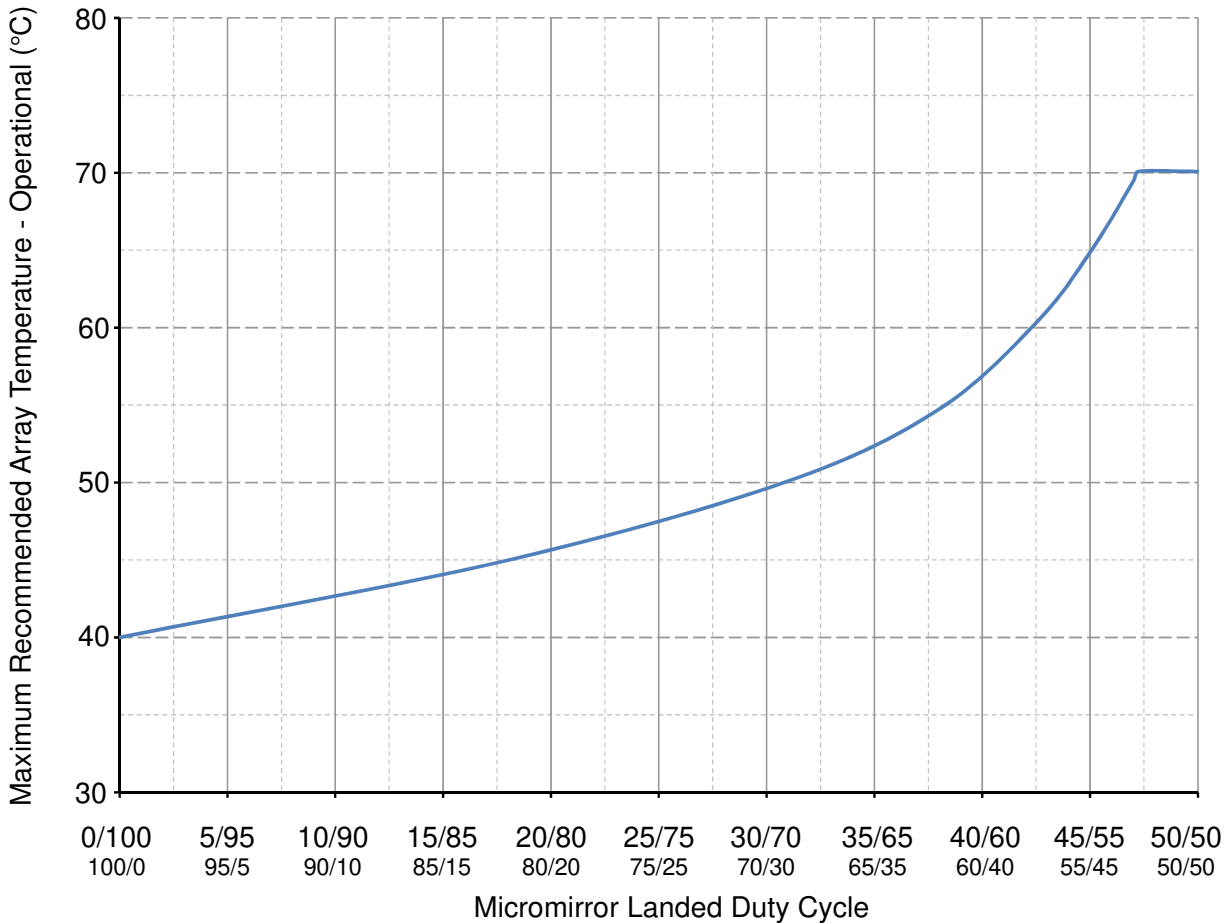

Figure 6-1. Max Recommended Array Temperature—Derating Curve
- (14) Per Figure 6-1, the maximum operational array temperature must be derated based on the micromirror landed duty cycle that the DMD experiences in the end application. See Section 7.7 for a definition of micromirror landed duty cycle.
- (15) Long-term is defined as the usable life of the device.
- (16) Array temperatures beyond those specified as long-term are recommended for short-term conditions only (power-up). Short-term is defined as cumulative time over the usable life of the device and is less than 500 hours.